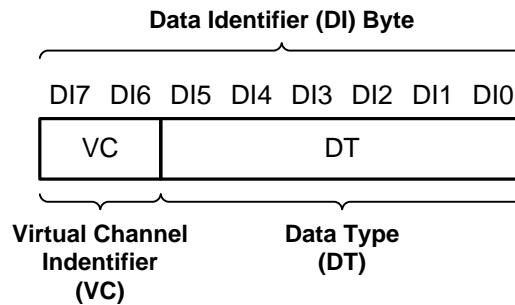

Figure 31. CSI-2 Data Identifier Structure
The DS90UB940-Q1 MIPI CSI-2 protocol interface transmits the data identifier byte containing the values for the virtual channel ID (VC) and data type (DT) for the application specific payload data, as shown in Figure 31. The virtual channel ID is contained in the 2 MSBs of the data identifier byte and identify the data as directed to one of four virtual channels. The value of the data type is contained in the 6 LSBs of the data identifier byte.